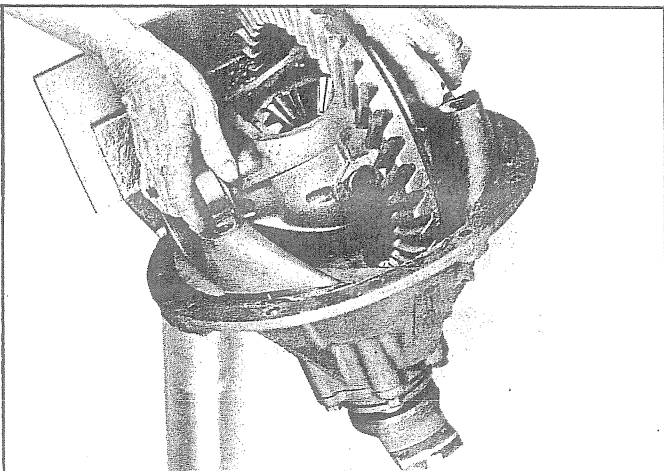

Fig. 107 - Removing Differential from Housing
5. Remove the two adjusting nuts -- then lift ring gear and case assembly from the differential as shown in Fig. 107. Remove bearing cups.